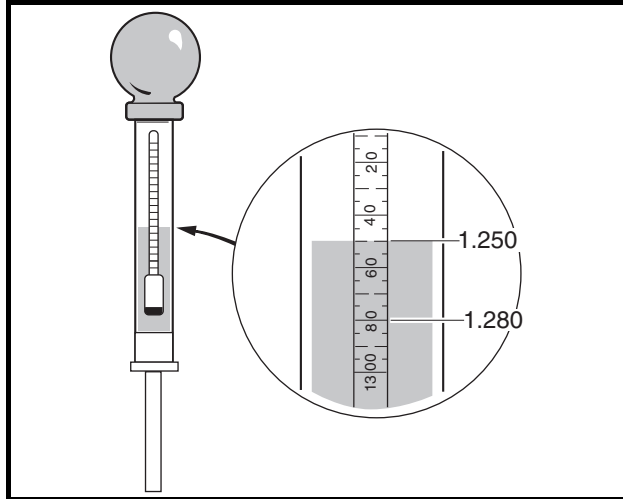

Figure 10-4 Hydrometer Test
5. Hold the hydrometer vertically, ensuring that the float is not touching the sides of the barrel. Hold the hydrometer at eye level and read the scale at the level of electrolyte (**Figure 10-4, Page 10-12**).